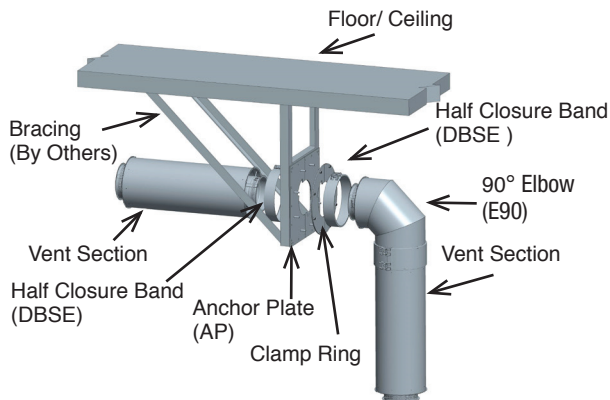
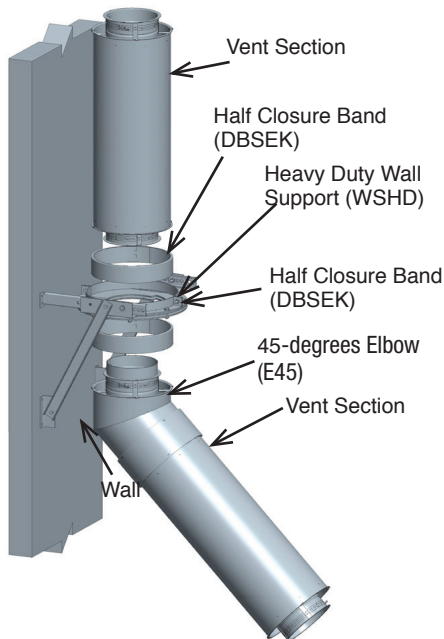

Figure 56- Elbow with an Anchor Plate (AP)
Figure 57- Elbow with an Heavy Duty Wall Support
Elbows are to be supported on one end with either a fixed support: Anchor Plate (AP), or a Heavy Duty Wall Support (WSHD). See **Figure 56** for an example with an AP and **Figure 57** for an example with a (WSHD).